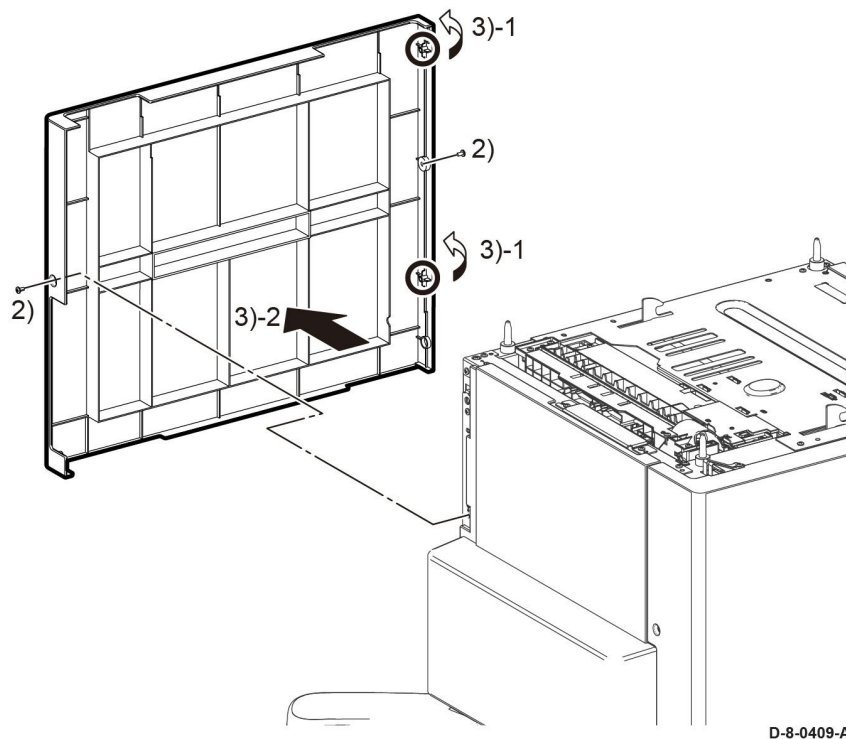

Figure 1 Right side cover
3. Perform the steps that follow, Figure 1: